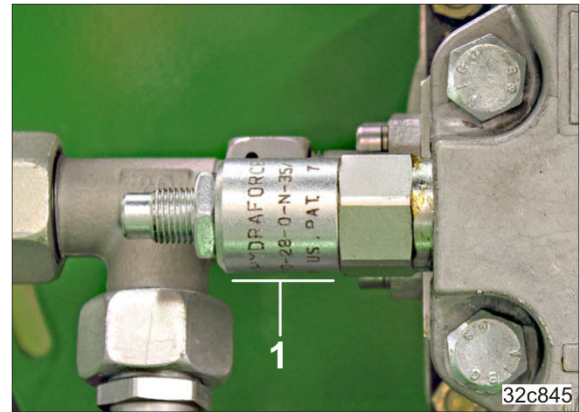

Fig. 169
- 2.1 Pressure relief valve with round outer contour (Fig. 169/1)